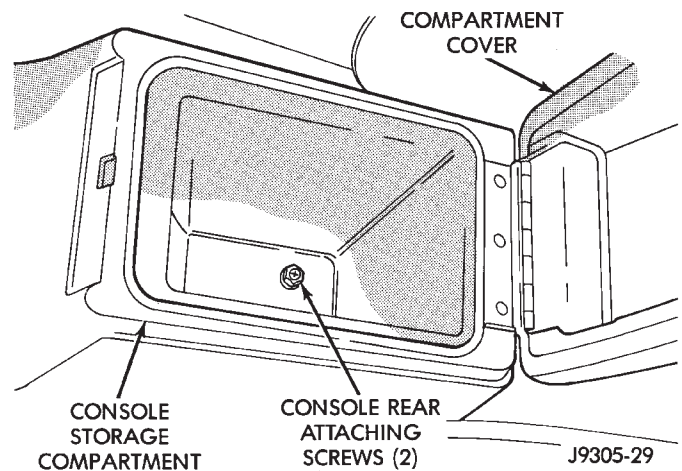
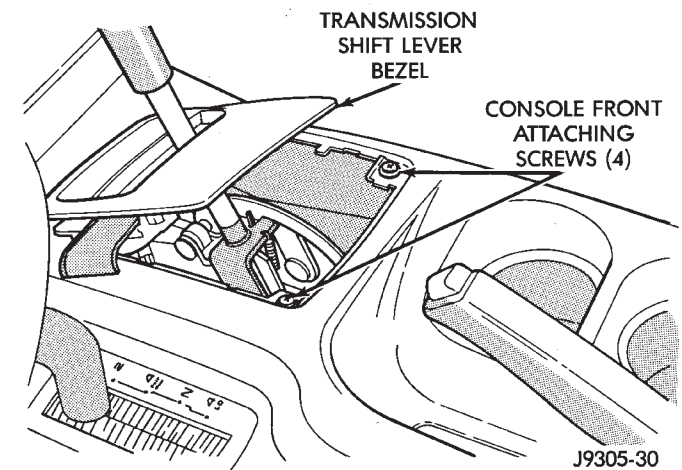

Fig. 46 Full Console Rear Attaching Screw Location
Fig. 47 Full Console Front Attaching Screw Location
(1) Disconnect battery negative cable.
(2) Remove screws at bottom of console storage bin.
(3) Remove handle from transmission shift lever. Grasp handle and pull up sharply to remove handle from lever.
(4) Unsnap and remove shift lever bezel (Fig. 46). Bezel has two retainer tabs on each side.
(5) Remove light bulb from shift lever bezel.
(6) Remove screws attaching front of console (Fig. 47). Screws are under shift lever bezel and are accessible once bezel has been removed.
- (1) Disconnect battery negative cable.
- (2) Remove transmission shift lever handle. Grasp handle and pull upward sharply to remove it from lever.
- (3) Unsnap and remove shift lever bezel (Fig. 46).
- (4) Remove light bulb from shift lever bezel.